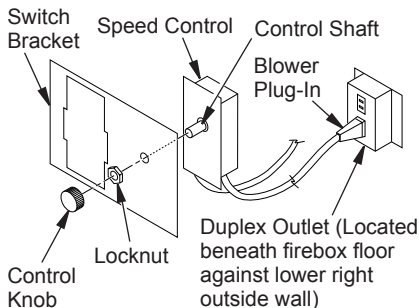

Figure 27 - Attaching Speed Control to Firebox
5. Mount speed control box to switch bracket by placing plastic control shaft forward through round opening in switch bracket (see Figure 27).
- Mount speed control box against mounting plate provided in lower fireplace cavity by placing plastic control shaft forward through round hole (see Figure 27, page 19).
- While supporting speed control, secure control shaft with lock nut by pushing and turning lock nut with pliers clockwise until it is tight against mounting plate. Place provided control knob on shaft (see Figure 27, page 19).